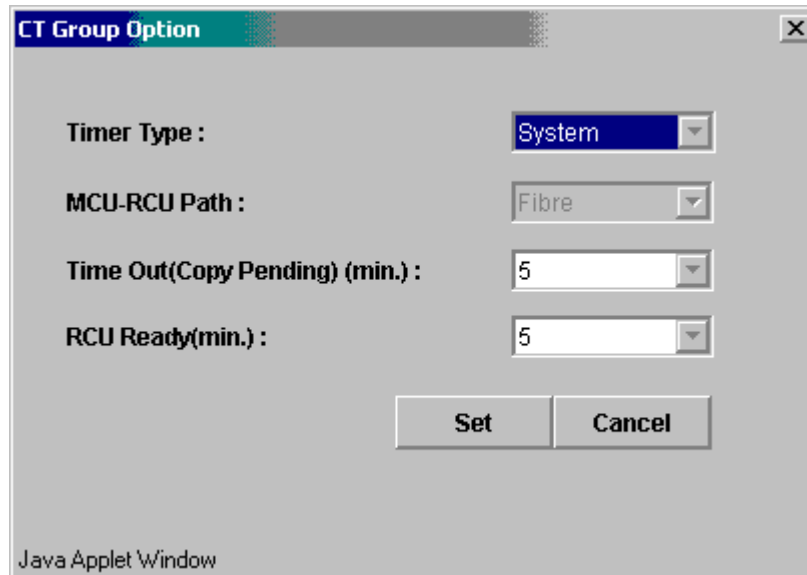

Figure 4.31 CT Group Option Panel
The CT Group Option panel (see Figure 4.31) allows you to change the group options for the existing consistency groups. To open the CT Group Option panel, select the **Asynchronous Operations** tab, select **Display All** or **Used** in the outline view, select the desired group(s), right-click on the group(s), select **CT Group Operation**, and then select **CT Group Option**.
4. Right-click on the selected group(s), select **CT Group Operation**, and then select **CT Group Option** to open the CT Group Option panel (refer to Figure 4.31). If the **CT Group Option** command is not enabled, you need to suspend the remaining pairs in this group.